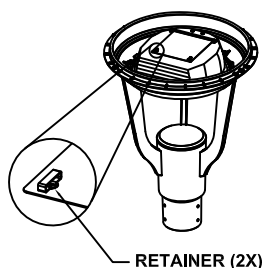

FIG. 7
2. ROTATE 1/4 TURN (2X) & OPEN RELAMP DOOR AS SHOWN IN FIG. 7 & 8. REMOVE LAMP & REPLACE WITH SAME TYPE & WATTAGE PER RELAMP MARKING LABEL. REPLACE RELAMP DOOR INTO REFLECTOR. ROTATE 1/4 TURN FASTENERS (2X).